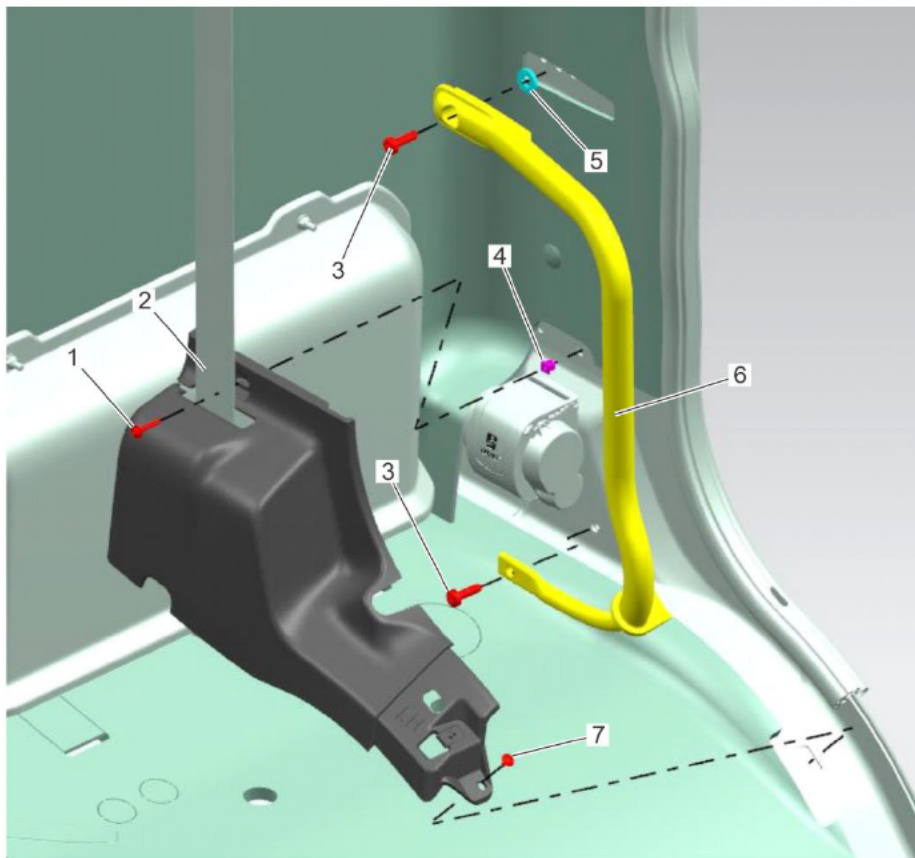

**Fig. 3, Removal of the Left-Hand Treadplates**
7. Remove the left-hand treadplates. See Fig. 3.